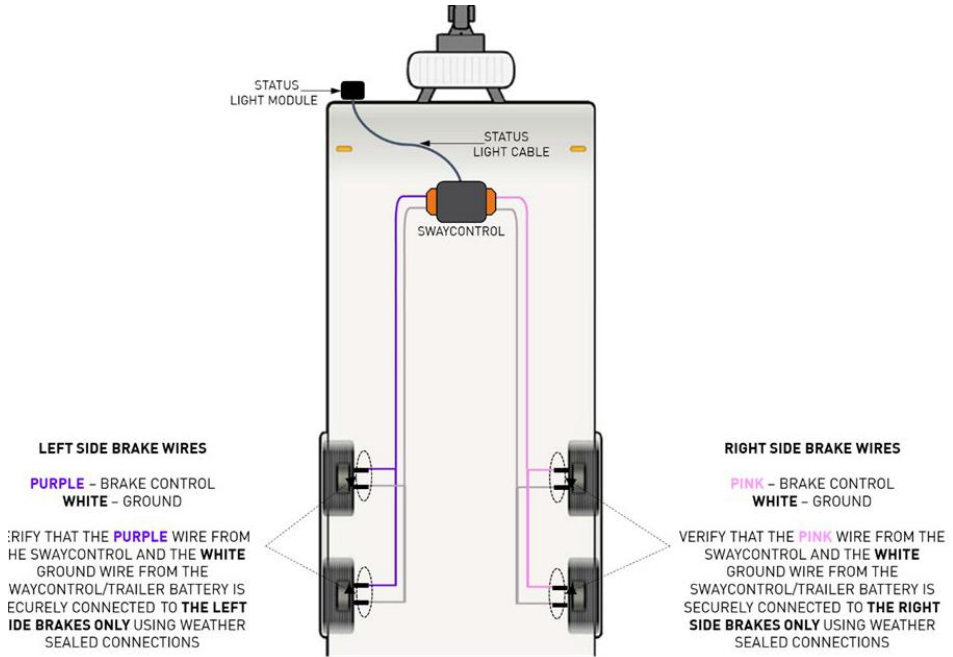

Figure 10: Verifying correct installation of the left and right side brake wires.
1. Refer to figure 10 to verify correct wiring on the left-hand side of the trailer. Ensure that **ONLY** the **PURPLE** and **WHITE** wires from the **SwayControl** are connected to the left side trailer brakes and are wired in parallel and not in series.
2. Refer to figure 10 on the following page and verify correct brake wiring on the right-hand side of the trailer. Ensure that **ONLY** the **PINK** and **WHITE** from the **SwayControl** wires are connected to the right side trailer brakes and are wired in parallel and not in series.